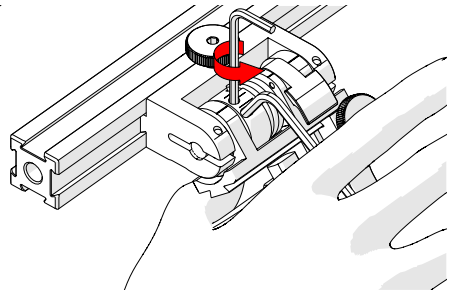

Fig. 116 - Press 3 mm hex wrench down
5. Lightly press the long arm of the 3 mm hex wrench down. Using the 2 mm hex wrench, loosen the force adjustment screw but do not remove it (Fig. 116).